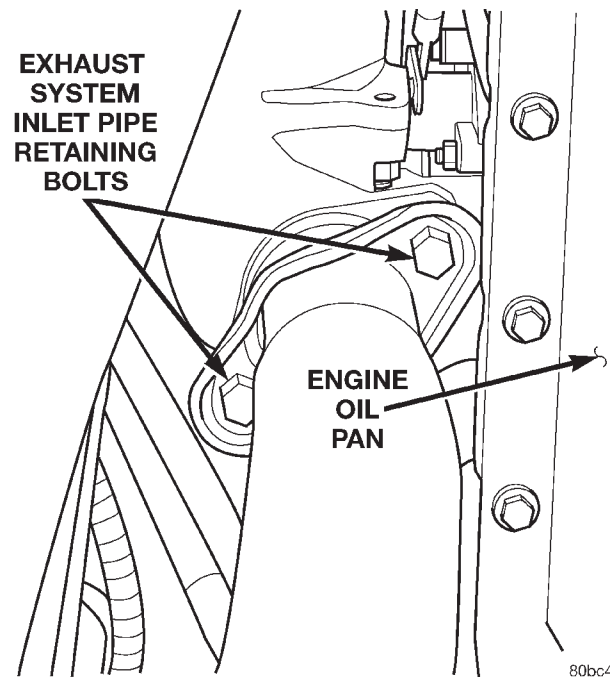

Fig. 45 Exhaust System Inlet Pipe Retaining Bolts
- (25) Install the exhaust system inlet pipe on the turbocharger (Fig. 45). Torque the bolts to 22 N-m (194 in. lbs.).
- (26) Lower the vehicle on the hoist.